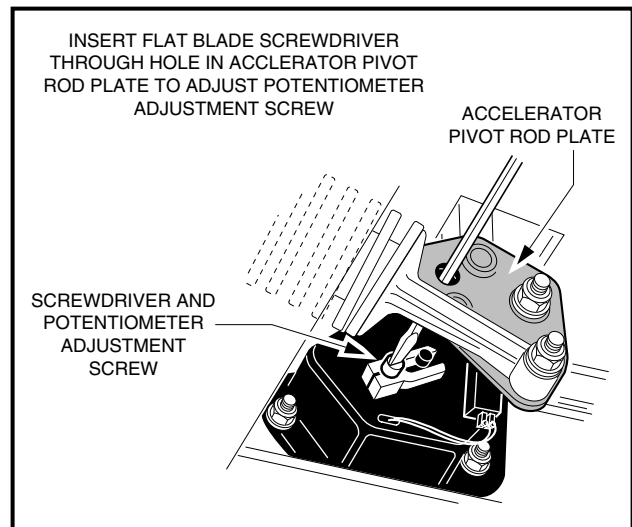

FIGURE 6-18
- 4.8. Using a potentiometer adjustment tool or very small flat blade screwdriver (electronics type), turn the potentiometer adjustment screw until the test module reads from 3.38 to 3.42 volts. Then tighten the potentiometer lock nut to 4-6 in.lbs (.45/.68 N-m)(See Figure 6-18).